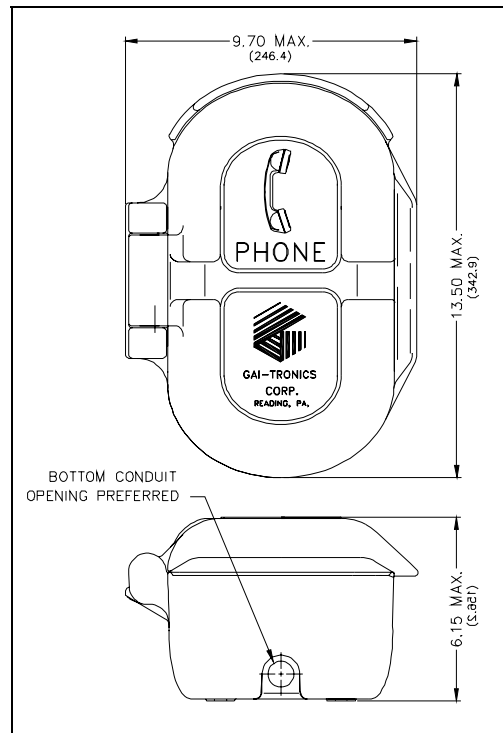

Figure 4. Model 226-003 Outline
5. Install a conduit fitting in one of the 1/2-inch NPT conduit entrances provided at both the top and bottom of the unit, and insert the conduit into the fitting. (The bottom location is preferred. See Figure 4.) Plug the unused access hole using the 3/8-inch Allen drive plug provided.